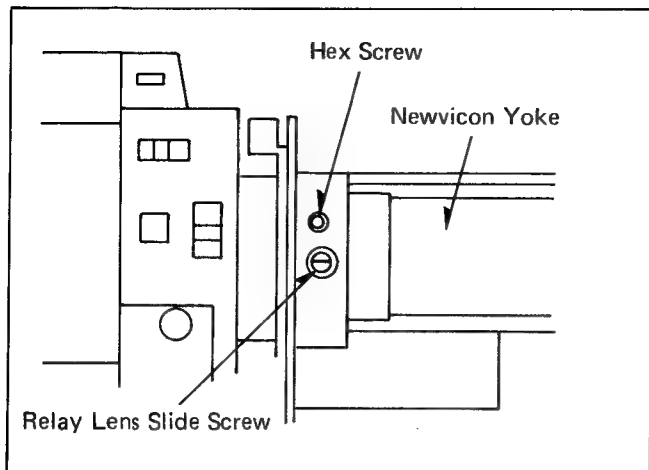

Fig. 16
(8) BACK FOCUS ADJUSTMENT
- Loosen the hex screw using a 1.5mm hex wrench on the relay lens. (See Fig. 16.)